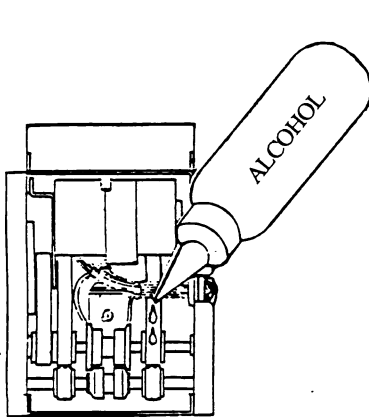

FIGURE 1
- 1a. With the motor still running, use a soft paper towel to dry and clean the belts (see Figure 1), one at a time. Apply as many times as necessary until no more dirt or oil can be removed.